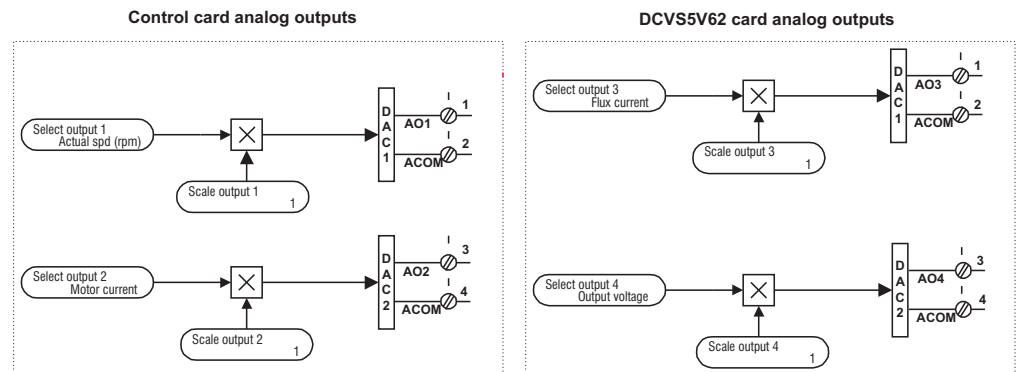

Figure 5.12.1.1: Functional diagram of analog outputs.
- 4) With a calibration factor of 1, the output provides 10V when the voltage reaches 10V on the analog input (where the scaling factor and **Tune value** of the input = 1). See figure 5.12.1.1